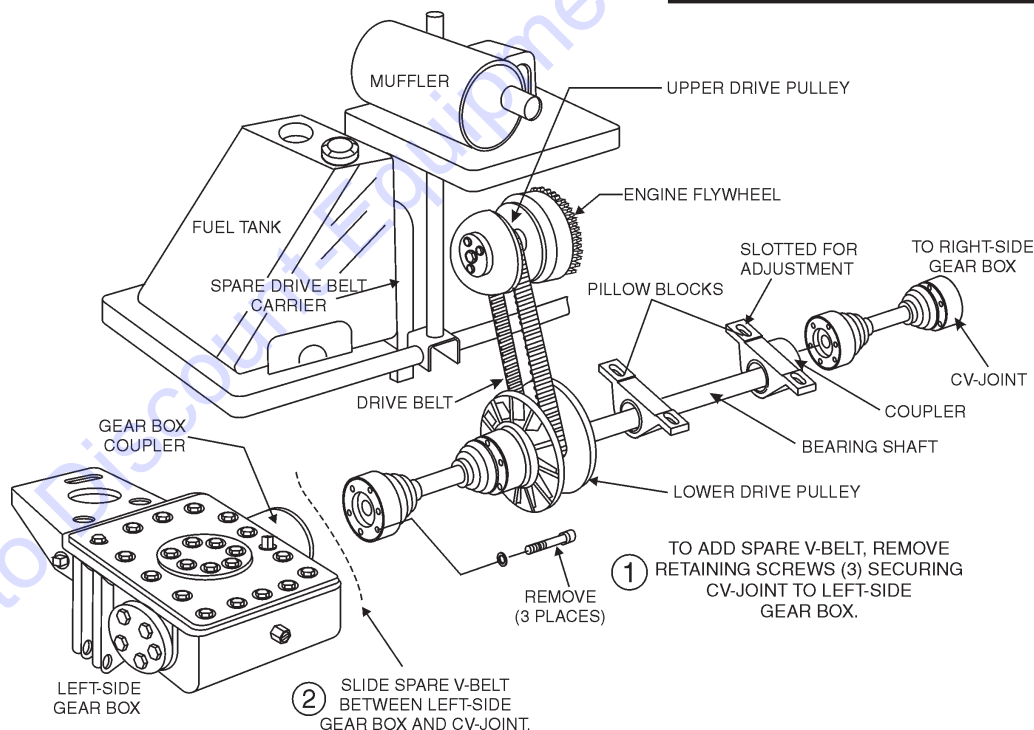

Figure 13. Spare V-Belt Replacement
The HHN trowel is equipped with a replacement drive belt (spare) carrier (Figure 13), which is mounted on the back-side of the fuel tank opposite the clutch. Make sure that there is **ALWAYS** a spare drive belt in the drive belt carrier before the trowel is placed on a slab to finish concrete.
3. Once the CV-joint has been separated from the left-side gearbox, push the CV-joint inward so that a gap exist between the gearbox and the CV-joint (Figure 13). Slide the spare V-belt between the gear box coupler and the CV-joint. If any grease or oil is present on the replacement drive belt, remove it.